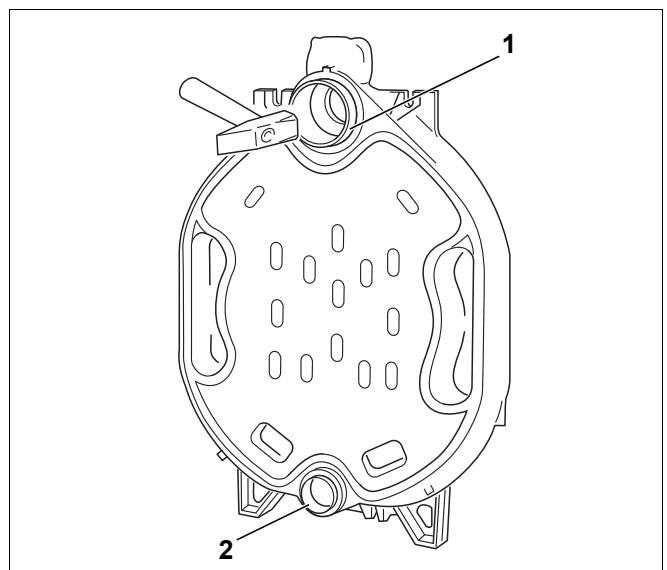

Fig. 9 Hammering the nipples home
- Fit the nipples straight into the upper (size 2, 119/50) and lower (size 0, 57/50) hub of the rear section and hammer home securely with alternate heavy blows. Afterwards, the upper nipple (→ Fig. 9, [1]) and the lower nipple (→ Fig. 9, [2]) should protrude approx. 28 mm from the respective hub.